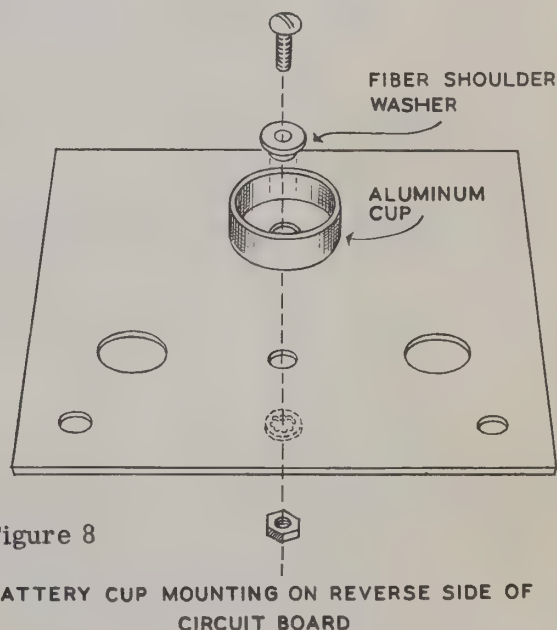

Figure 8
- (✓) Using 6-32 x 3/8" screw and fiber shoulder washer, install battery holder in position shown in Figure 8.